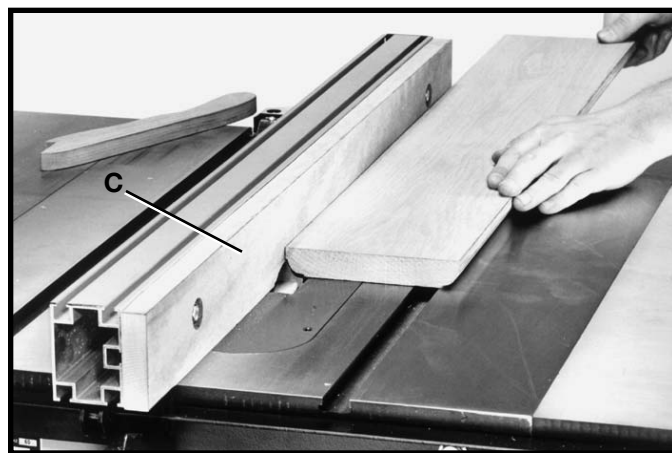

Fig. 135
It is necessary when using the moulding cutterhead to add wood-facing (C) to the face of the rip fence, as shown in Fig. 135. The wood-facing is attached to the fence with wood screws through holes which must be drilled in the fence. 3/4 inch stock is suitable for most work although an occasional job may require 1 inch facing.
Position the wood-facing over the cutterhead with the cutterhead below the surface of the table. Turn the saw on and raise the cutterhead. The cutterhead will cut its own groove in the wood-facing. Fig. 135, shows a typical moulding operation. See accessories page 48 for moulding cutterhead set. **NEVER USE MOULDING CUTTERHEAD IN A BEVEL POSITION.**